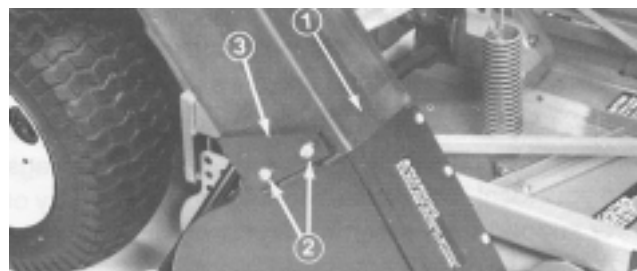

Figure 10
3. Lower hopper hood and align chute with snout. Secure chute in position with locknuts and brackets. Wide end of brackets to be positioned toward rear (Fig. 10).